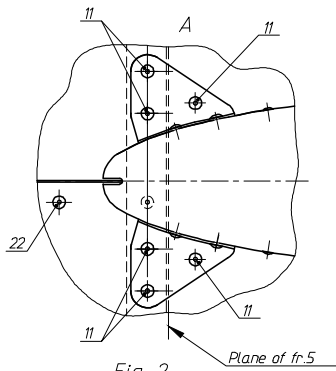

Fig. 2.
- 2.3. Drill out the rivets of the upper longitudinal joint of the tail boom (see fig. 2, 7, 8, view E and A No.22 – 32 pcs. with $\varnothing 3$ mm drill bit).
- 4.3. Set the rivets (see fig. 2, 4, 7, 8, 9, 10) No.22 – 32 pcs., No.20 – 6 pcs., 19 – 8 pcs.